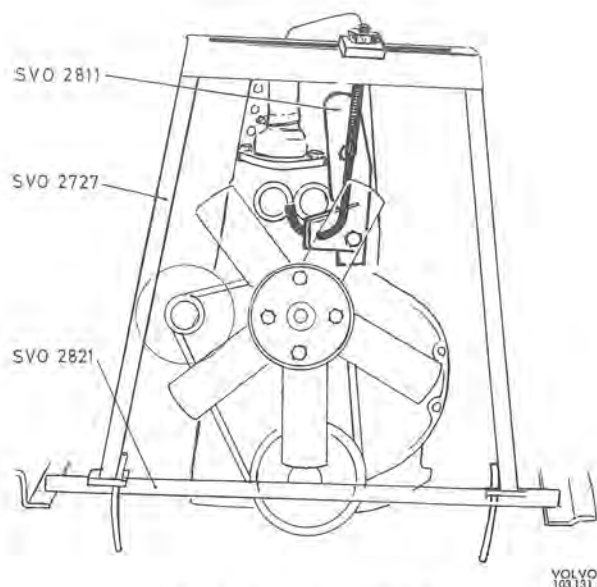

Fig. 2-17. Lifting tool SVO 2727
1. Place support SVO 2821 on the side members as shown in Fig. 2-17. The pins should point forwards and lie against the front plates. The support plates should face upwards. Fit lifting lug SVO 2811, see Figs. 2-17 and 2-13. Place lifting tool SVO 2727 on the support and secure the hook in the lifting